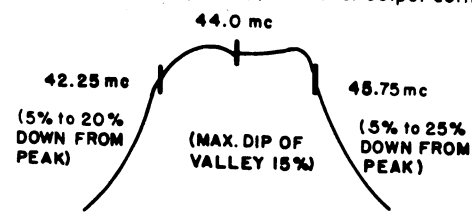

FIG. 1
4. Adjust T-4 top and bottom simultaneously for maximum gain and symmetry about the 44.0 mc marker as shown in Fig. 1. (Use core positions nearest outside ends of coil.) With input signal maintained to produce 2 volts P-P output during final adjustment, bandwidth markers should fall between the tolerances indicated.